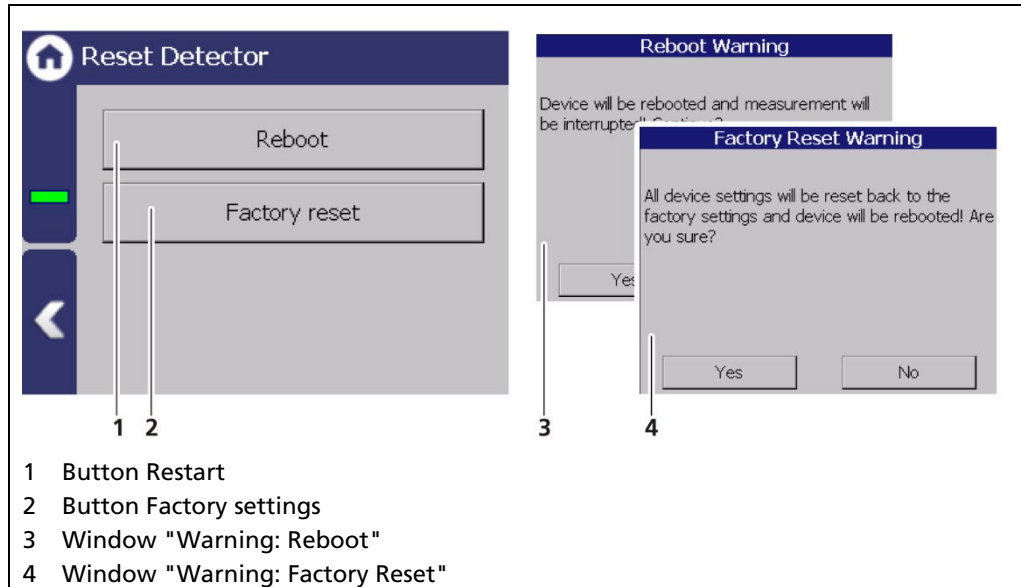

Fig. 72 Reset Detector
1. To restart the Detector, click the button < Reboot > (Fig. 72, item 1).
- ▶ A window with a warning "Reboot" (Fig. 72, item 3) opens.
1. To reset the detector to the factory settings, click the button < Factory reset > (Fig. 72, item 2).
- ▶ A window with the warning Factory settings (Fig. 72, item 4) opens.